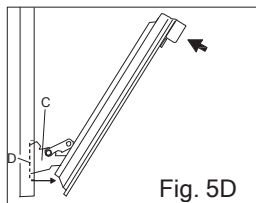

Fig. 5D
- 4 Using both hands, push the oven door lightly inwards, to enable the door hinges "C" to come away from the slots "D" (see Fig. 5D) and pull the door towards you until it is released from the oven.